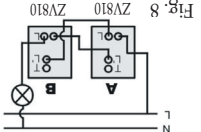

Fig. 8
- 3. To replace both 2 way switches in a two way circuit. (See Fig. 8)